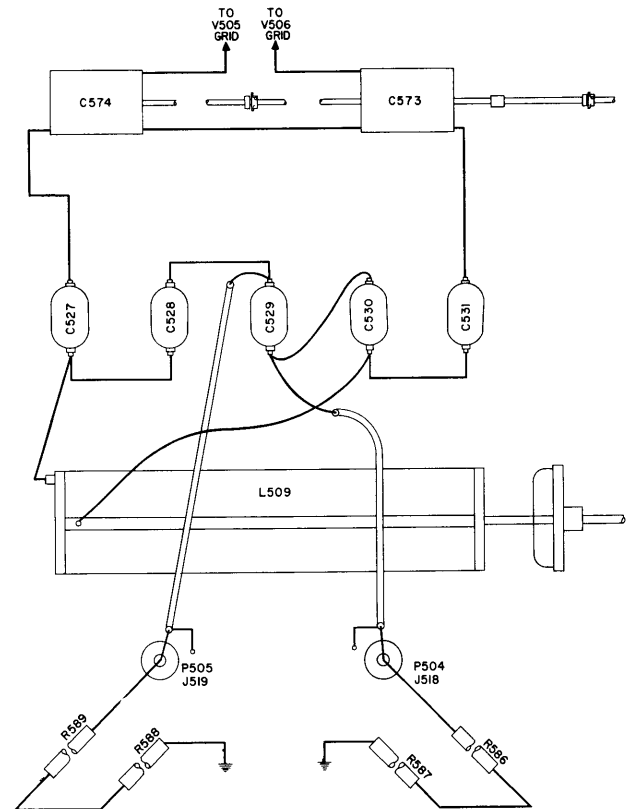

Figure 3-15. Wiring Diagram — RF Unit T-225A/-FRT-5, Conversion of PA Input Circuit for Single Side-band Excitation
b. POWER AMPLIFIER GRID CIRCUIT CONVERSION. — A wiring diagram for the single side-band conversion is shown in figure 3-15.
(1) Remove the variable vacuum capacitor C526 and lay it aside.
(2) Remove the 25-347 mmf variable air capacitors C533 and C534 and replace them with 9-52 mmf variable air capacitors C573 and C574 from the modification kit. Note that mounting holes are provided for these capacitors. Leave balancing capacitor C535 disconnected.
(3) Remove the three 140-mmf fixed vacuum capacitors, C527, C528 and C529, but save them for replacement.